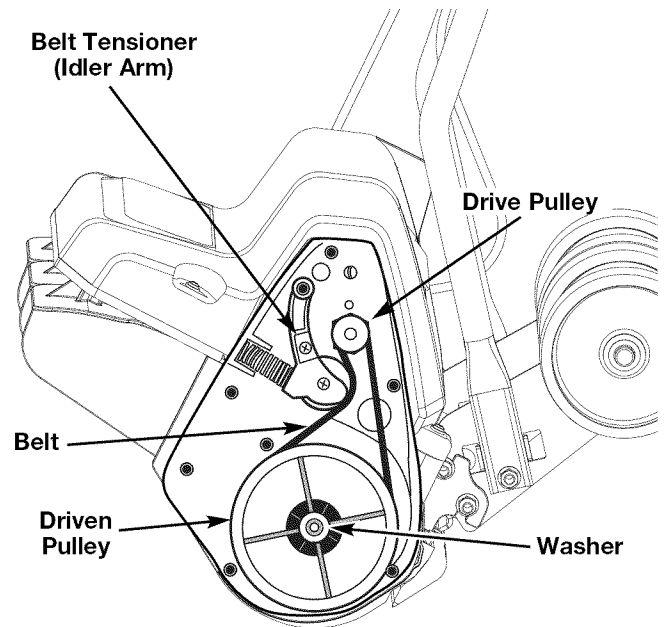

Fig. 11
3. Pull the belt tensioner (idler arm) away from the drive pulley. Remove the damaged or broken belt from the driven pulley and drive pulley inside of the housing. Discard appropriately (Fig. 11).
4. Loop the new belt around the drive pulley and driven pulley (Fig. 11). Pull the belt tensioner (idler arm) away from the drive pulley to install the belt around the drive pulley.